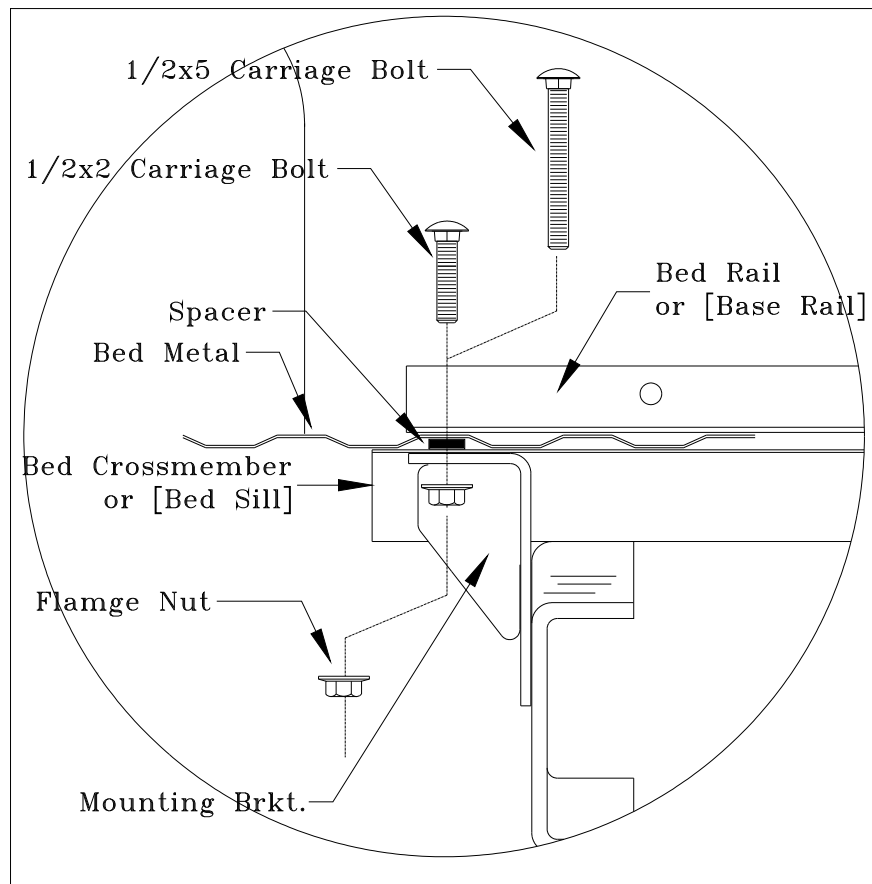

Figure 5
1. Install Bed Channel Spacers directly below the mounting holes drilled in the bed. These spacers will pass between the bottom of the bed and the top of the bed cross sills, see figure 5 on page 8. These spacers may have to be tapped into place with a hammer.
3. Referring to figure 5 on page 8 and the exploded view figure 1 on page 4, insert the six 1/2" x 2" Carriage Bolts through the Base Rail, bed and Bed Spacers.
4. Referring to figure 5 on page 8 and the exploded view drawing figure 1 on page 4, fit the Mounting Brackets over the Carriage Bolts and insert the 1/2" x 1 1/2" Frame Bolt through the forward hole in the Mounting Bracket and the frame. This hole will have to be drilled for 6 foot bed trucks while for 8' bed trucks there is an existing hole in the frame but is under sized and will need to be reamed out to 1/2". Because of the fuel tank located on the driver's side, the 1/2" Hex Bolt with Back-up Plate will have to be used. This will provide a handle with which to reach this difficult hole location and will also provide a means for "back-up" when tightening the fastener.